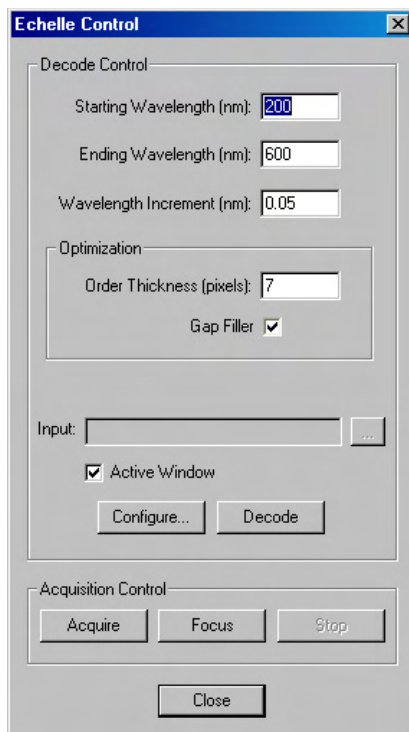

Figure 8. Echelle Control dialog box
1. Select **Decode Echelle Data...** from the **TOOLS** menu to display the **Echelle Control** dialog box (Figure 8).